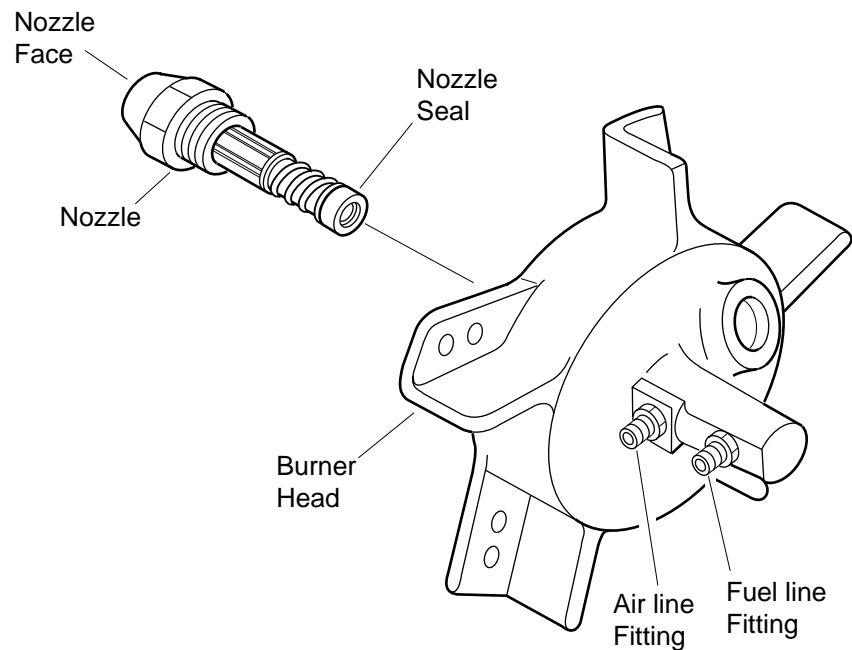

Figure 18 - Removing Nozzle
8. Carefully remove nozzle from burner head using 5/8" socket wrench (see Figure 18).